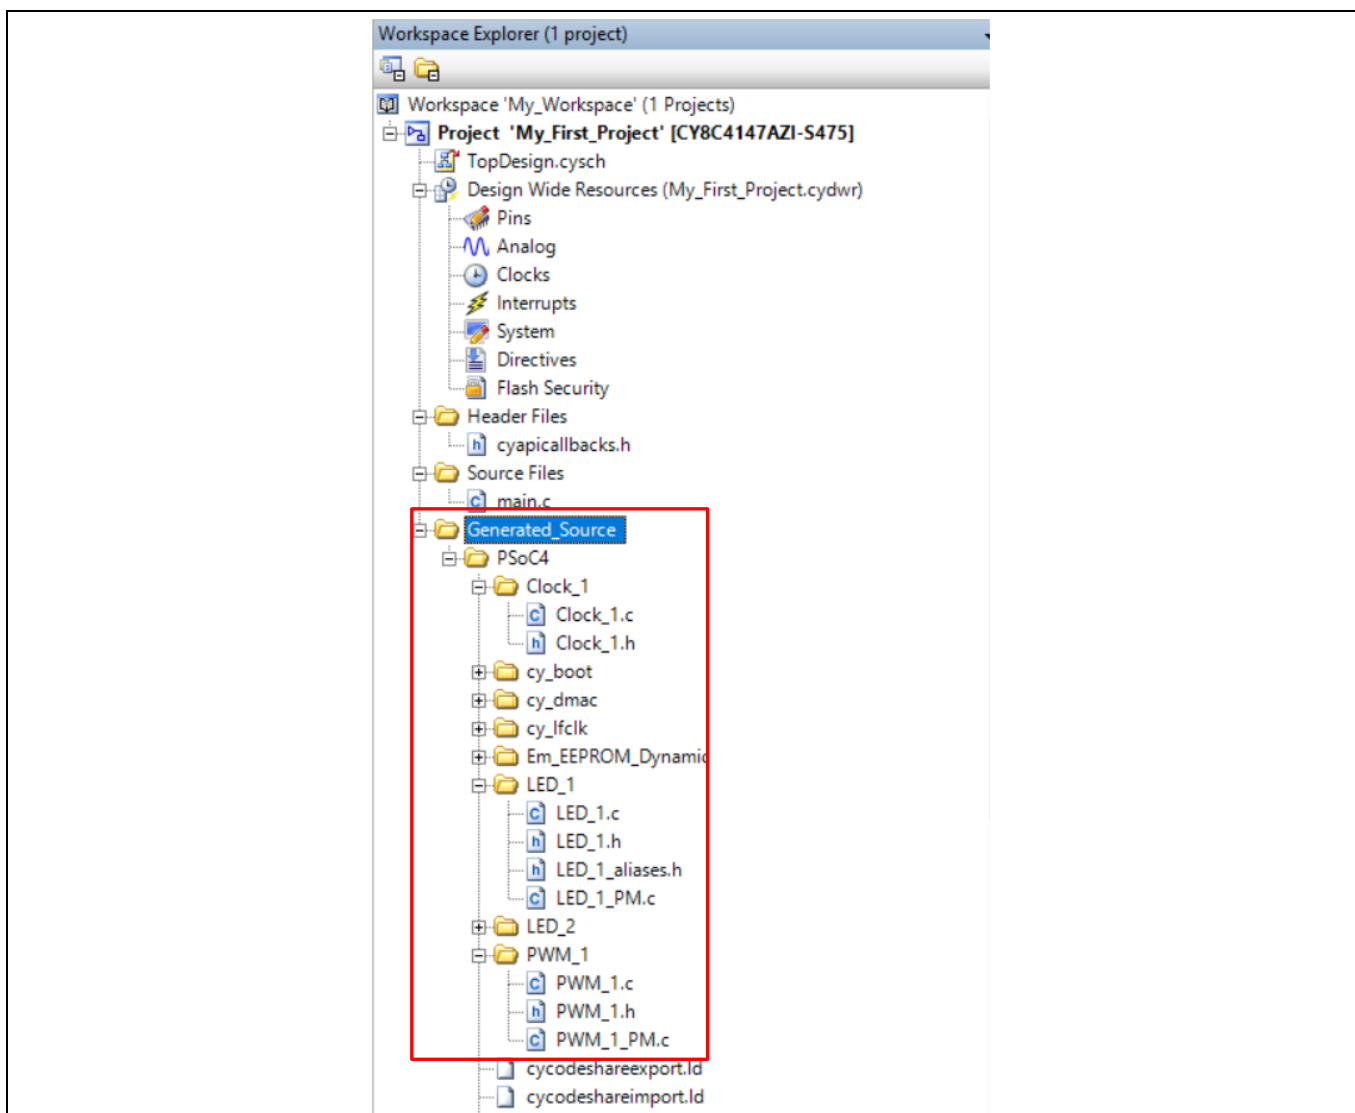

Figure 46 Generated source files
13. Select **Build My_First_Project** from the Build menu. Notice in the **Workspace Explorer** window that PSoC™ Creator automatically generates source code files for the PWM, Clock, and Digital Output Pin Components, as shown in **Figure 46**.